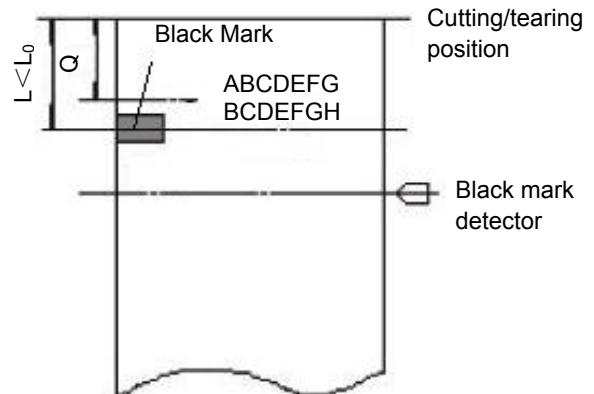

Figure 7-3
2. (1) When the distance L between the cutting/tearing position and the black mark position is less than the inherent mechanical value L_0 of the printer (shown as figure 7-3), the calculation of cutting/tearing position offset is shown as follows: